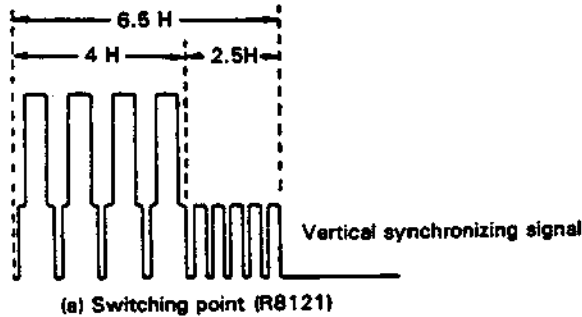

Figure 2-2.
- 2. Using the puls (-) trigger slope of the oscilloscope, adjust R8121 (SW POINT) to provide a waveform of 6.5 ± 0.5 H as shown in Fig. 2-2.